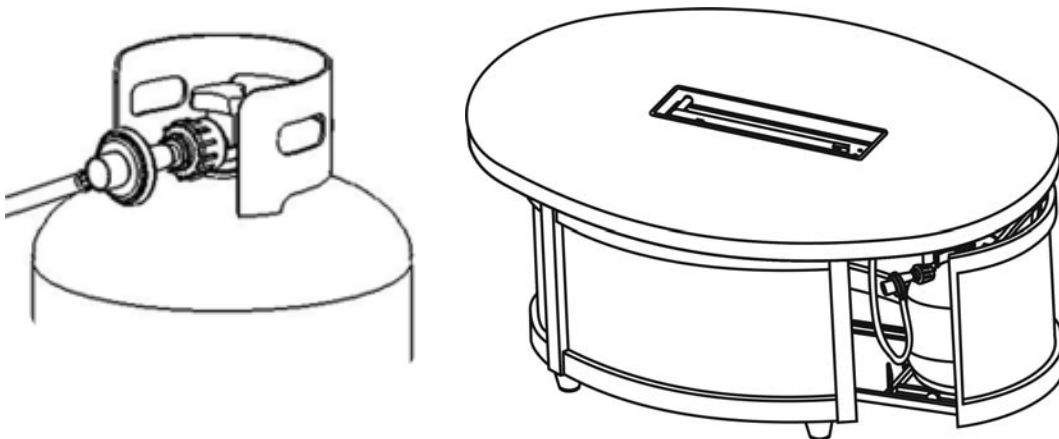

Figure 5
3. Slide the tank drawer out and place the LP tank in the drawer. Connect the regulator as shown in Figure 5. Screw the black handle clock-wise to tighten. Turn the handle counter clock-wise to remove. The hose must point down. Check that the valve is turned all the way clockwise to the "OFF" position. Open the tank valve. Apply a solution of soapy water to the tank-regulator connection and to the valve-hose connection to check for leaks. If soap bubbles continue to form, the connection has a leak. If a leak is found, close the tank valve and tighten all connections.